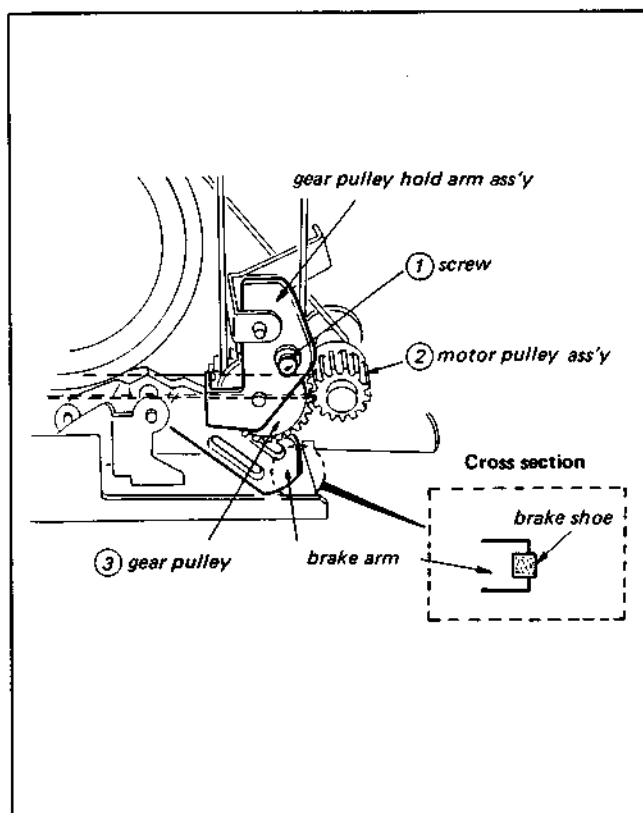

Fig. 3-23. Position adjustment of gear pulley hold arm assembly
1. Loosen screw ① shown in Fig. 3-23, adjust the position of the gear pulley hold arm assembly so that the clearance between the motor pulley assembly ② and the gear pulley ③ is 0.3 mm, and tighten screw ①.
1. Glue the brake shoe to the groove on the brake arm as shown in Fig. 3-23.